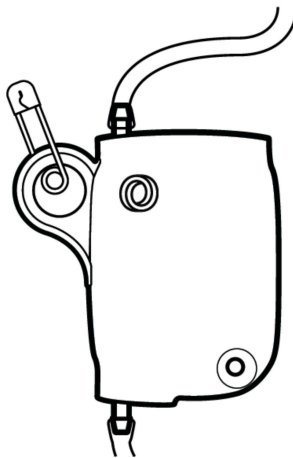

Figure 26: *Origin™* with Safety pin
Step 13 – (Optional) Secure the evacuator and *Origin™* to the patient’s gown below the wound site using the safety pin provided as depicted by Figure 26 below. Ensure that the tubing is not pulled tight and there is room for the patient to move without creating tension on the tubing or dressing.